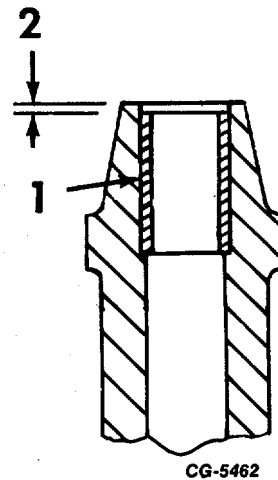

Fig. 27 Lower Bushing Location Dimension
- Press lower bushing into housing to dimension of 2.4 mm (3/32 inch) below bottom end of distributor housing (Figure 27).